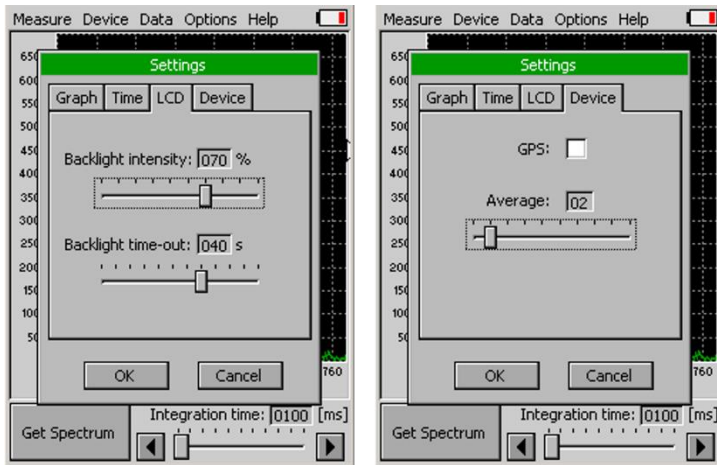

Fig. 7 A) Settings – LCD B) Settings - Device.
- **LCD** (Fig. 7-A)– is used to adjust LCD display control settings.
- **Device** (Fig. 7-B)